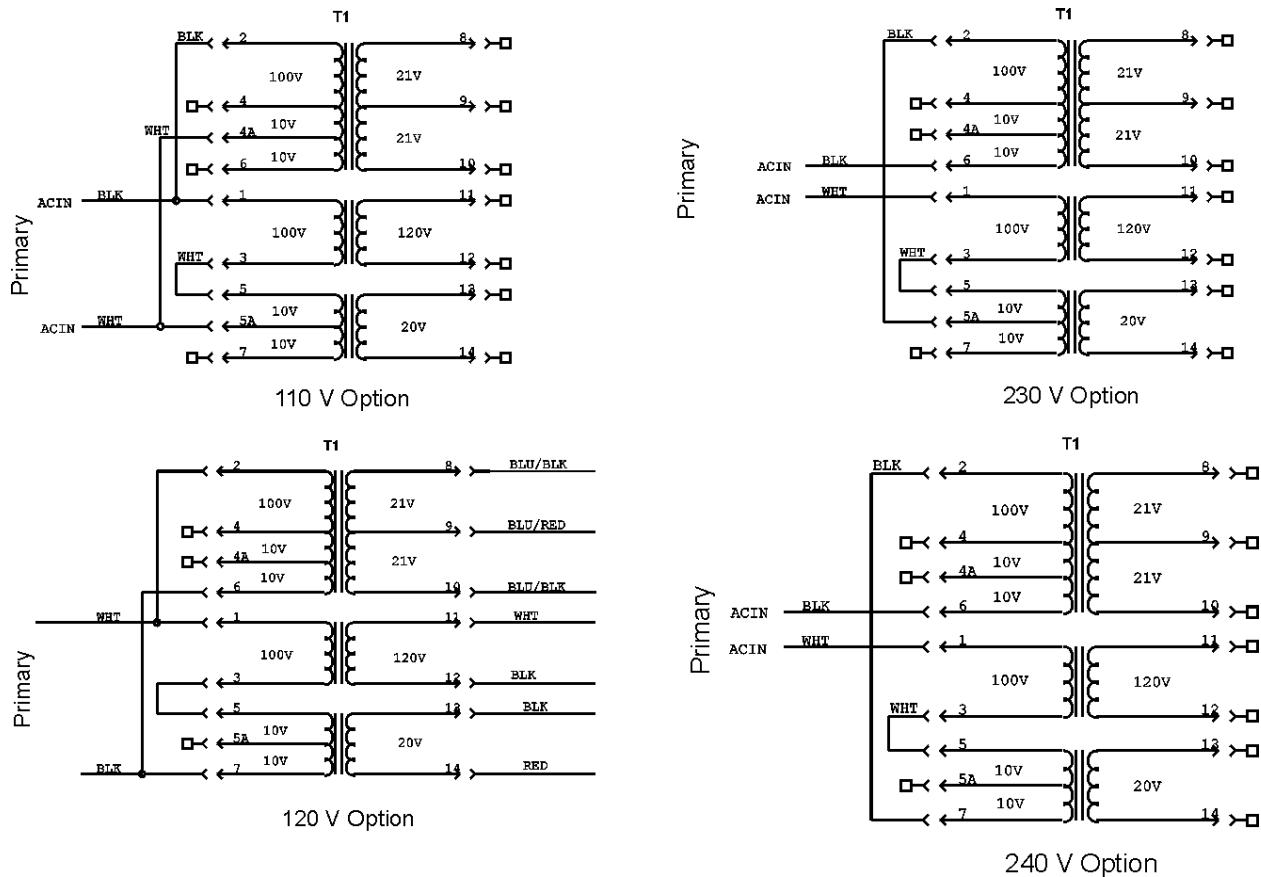

Figure 5-7. Isolation Power Transformer Options
- **Isolation Power Transformer.** With the exception of the heater, this transformer isolates the electronics from the input line. There are four optional input voltages: 110, 120, 230, and 240 VAC. All options use the same transformer with the primary coils wired in a different way. Figure 5-6 shows how two options are physically connected, and Figure 5-7 shows a schematic diagram with all options.